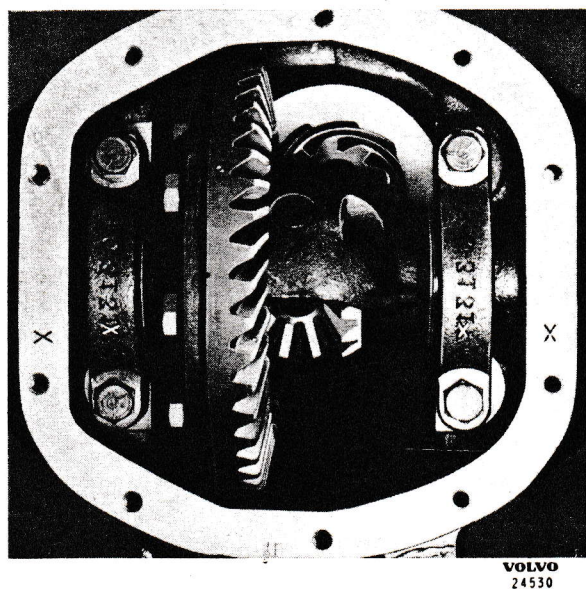

Fig. 10. Alignment markings on cap and housing.
6. Check the aligning marks on the cap (2) and the housing (21), see Fig. 10. If there are no markings or the markings are not easy to see, mark one side with a punch. Remove the cap.